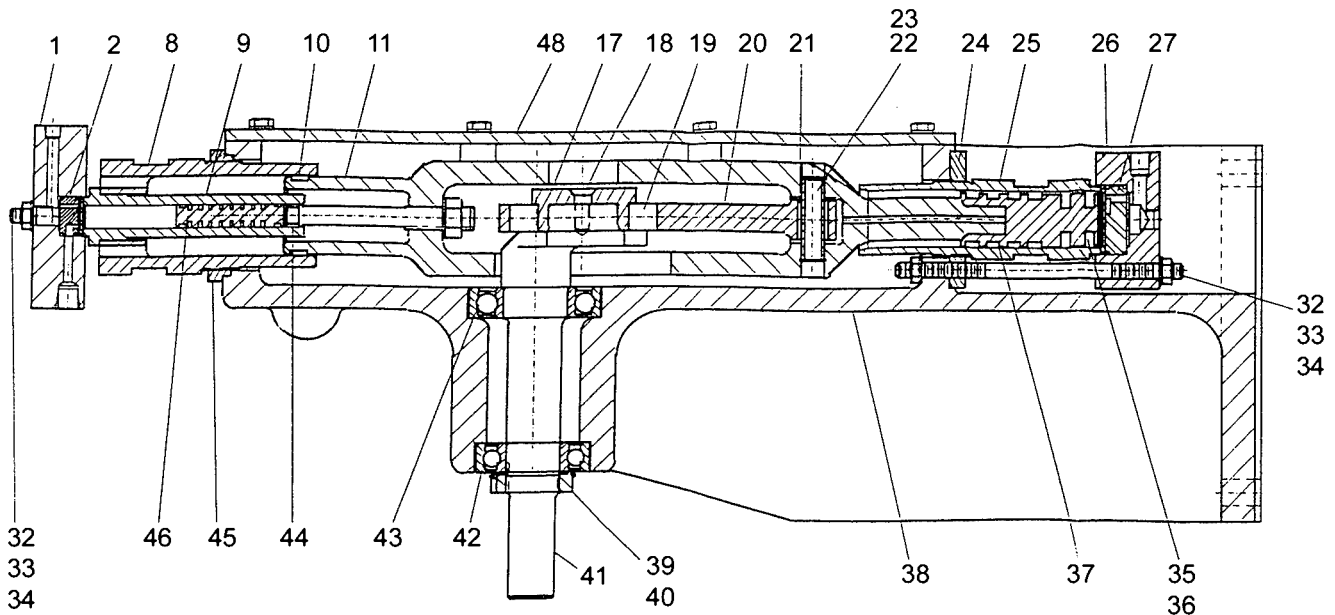
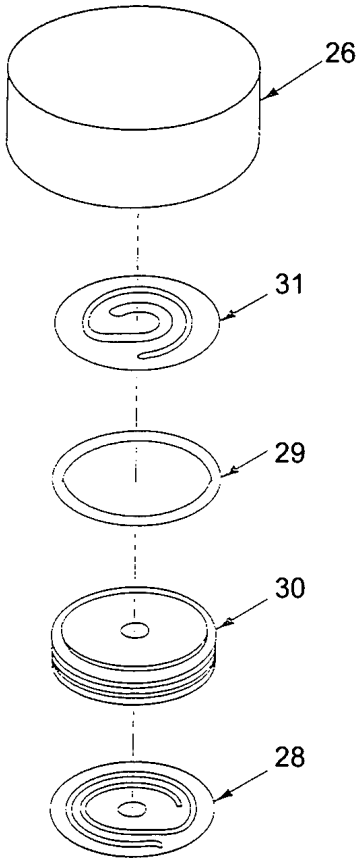
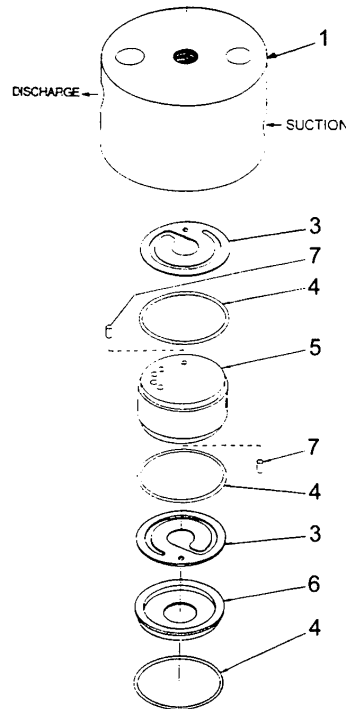

Figure 1. Crankcase Cross Section.
Figure 2. 1st Stage Valve Assembly.
Figure 3. 2nd Stage Valve Assembly.
- b. Remove the inlet and discharge piping from the head. The 1st stage head is at the bottom side of the compressor. Refer to Figure 1.
#### Legend For Figure 1
- c. Remove the nuts (33) and washers (34) that hold down the 1st stage head (26) and drop the head off. Make sure the cylinder (25) does not come out of the crankcase (38) with the head. Refer to Figure 1.
- d. Remove the suction reed valve (28) and inspect it. Refer to Figure 2.
**Legend For Figure 2**
- e. Remove the valve seat (30). Remove the discharge reed valve (31). Discard pitted, cracked or broken valves. A scratched or pitted valve seat (30) may need to be lapped. Discard the O-ring (29). Refer to Figure 2.
lapped or replaced, reassemble in reverse order of disassembly. Refer to Figure 2.
- b. Install the discharge reed valve (31) and new O-ring (29) in the head (26). A light coating of oxygen compatible grease (PCI P/N 582380-001, see WP 003 00, Table 2) should be used on the O-ring. Refer to Figure 2.
- c. Install the valve seat (30). Push down to engage the O-ring (29) properly. Refer to Figure 2.
- d. Put the suction reed valve (28) on the valve seat (30).
- e. Carefully position and orient the head on the cylinder and in line with the threaded studs (32). Move the head assembly against the 1st stage cylinder (25) and torque the nuts (33) in 2 or 3 ft-lbs. increments, using a cross sequence until 15 ft-lbs. torque is reached. Refer to Figures 1 and 2.
### Legend For Figure 3
- b. Remove the inlet and discharge piping from the 2nd stage head. The 2nd stage head is at the top side of the compressor. Refer to Figure 1.
- c. Remove the nuts (33) and washers (34) that hold down the 2nd stage head (1) and lift the head off. Refer to Figure 1.
- d. Remove the O-ring (4), valve stop (6), suction valve (3), locating pin (7), and second O-ring (4). Discard the O-rings. Refer to Figure 3.
- e. Remove the valve seat (5) from the cylinder head (1). Removal can be assisted by removing the plug in the head and using an object, such as a bolt with a blunt end, and putting it through the discharge port in the top of the head, then tapping lightly on the seat. Care must be taken not to damage the valve seat. Refer to Figure 3.
- f. Remove the O-ring (4), discharge reed valve (3) and the second locating pin (7). Discard the O-ring. Refer to Figure 3.
- a. Apply a light film of oxygen compatible O-ring grease to the new O-rings (4) (PCI P/N 582380-001, see WP 003 00, Table 2). Refer to Figure 3.
- b. Set the discharge valve (3) over the pin (7) in the head and place the first new O-ring (4) in the valve (5) pocket. Refer to Figure 3 for proper orientation of the valve.
- c. Insert valve seat (5) into head (1) with the pin hole in the discharge side of the seat aligned with the pin in the head. Look through the suction port in the head to check that the locating pin (7) has engaged the hole in the seat and the seat is inserted all the way to the bottom of the head. Be sure valve seat is not inverted. Refer to Figure 3.
- d. Install the O-ring (4) and new pin (7) on the suction side of valve seat (5). Install the suction valve (3), referring to Figure 3 for proper orientation.
- e. Install the valve stop (6) in the head (1) and the O-ring (4) on the valve stop.
- f. Carefully position and orient the head on the 2nd stage cylinder (9) and in line with the threaded studs (32). Move the head assembly against the 2nd stage cylinder (9) and torque the nuts (33) in 2 or 3 ft-lbs. increments, using a cross sequence until 15 ft-lbs. torque is reached. Refer to Figures 1 and 3.
The valve disassembly, inspection and repair instructions here cover all the compressor valve assemblies. Figures 2 and 3 should be used as guides for assembly.
Refer to Figure 1.
- b. Remove the inlet and discharge piping from the head. The 1st stage head is at the bottom side of the compressor. Refer to Figures 1 and 4.
- k. Carefully position and orient the head on the cylinder and in line with the threaded studs (32). Move the head assembly against the 1st stage cylinder (25) and torque the nuts (33) in 2 or 3 ft-lbs. increments, using a cross sequence until 15 ft-lbs. torque is reached. Refer to Figures 1 and 2.